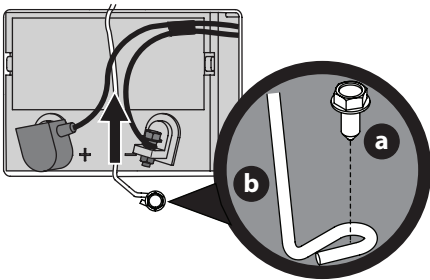

Figure 20
3. Remove the hex washer screw (a) securing the battery hold-down bracket (b) to the frame. Then flip the battery hold-down bracket (b) up to free the battery (Figure 20).